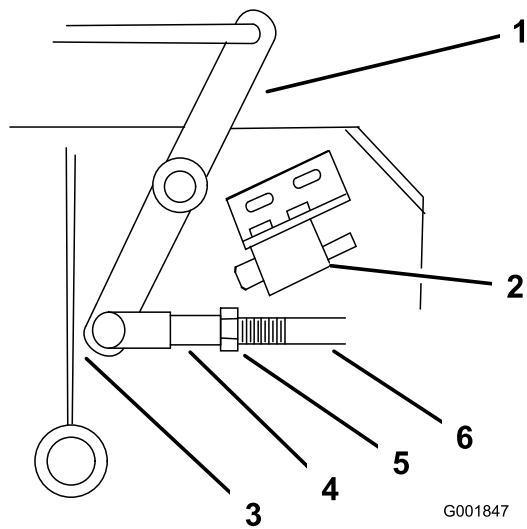

Figure 51
- Adjust the linkage length to where the lower end of the bellcrank just clears the axle support gusset (Figure 51).
9. Loosen the nut against the yoke (Figure 51).